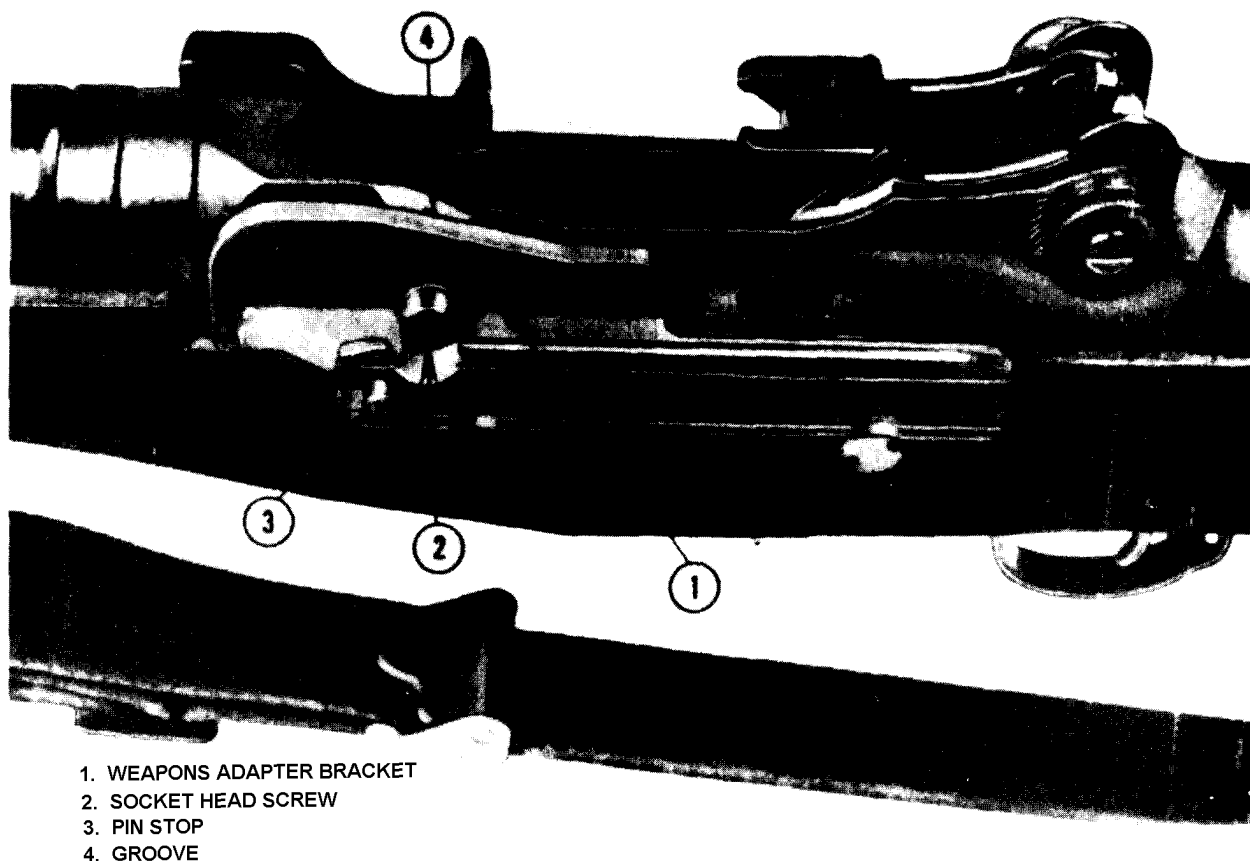

Figure 11. Installation of weapon adapter bracket to the M14 or M14A2 rifle.
18. Weapons Adapter Brackets. *a. M414 or M14A2 Rifle.* Align the weapon adapter bracket with the groove and screw recess on the left side of the receiver (fig. 11). Secure the bracket to the receiver by tightening the socket head screw of the bracket with the allen wrench.